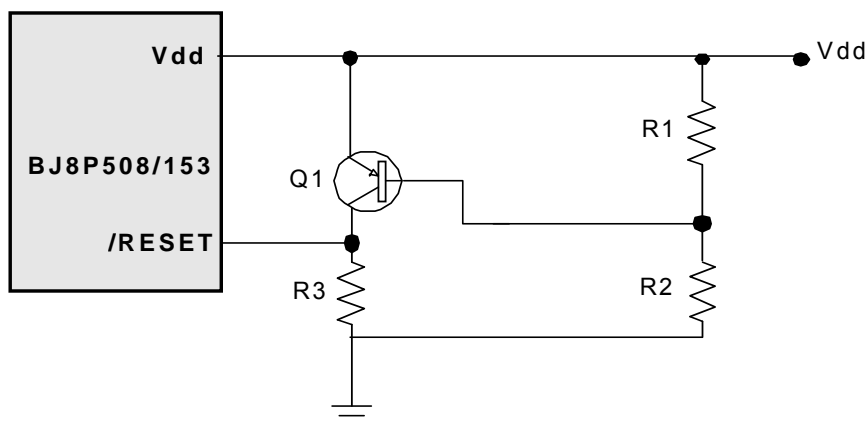

Fig.17 Circuit 2 for the residue voltage protection
The circuit shown in Fig 17 implements an external RC to produce the reset pulse. The pulse width (time constant) should be kept long enough for Vdd to reach minimum operation voltage. This circuit is used when the power supply has slow rise time. Because the current leakage from the /RESET pin is about $\pm 5\mu$ A, it is recommended that R should not be great than 40 K. In this way, the voltage in pin /RESET will be held below 0.2V. The diode (D) acts as a short circuit at the moment of power down. The capacitor C, will discharged rapidly and fully. RI, the current-limited resistor, will prevent high current